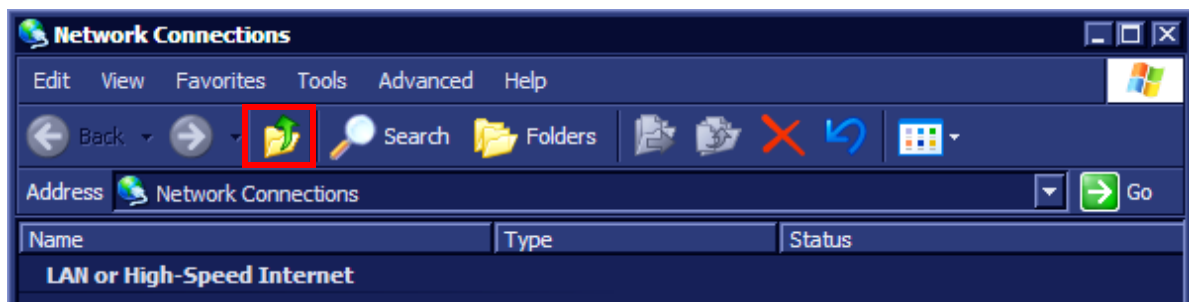

Figure 3-23 Network Connections showing highlighted "Up One Level" button
- 3.) The Network Connection screen opens (Figure 3-23). Click the "**Up**" button to open the Windows Control Panel.